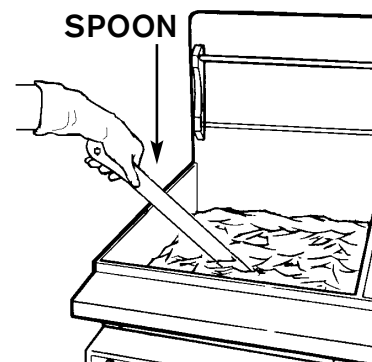

FIGURE 4.
3. Use spoon provided to stir oil. Bubbling will occur until all water is removed. Failure to do so will clog the filter paper. Refer to Figure 4.
2. Figure 4 (Water may have clogged the paper)